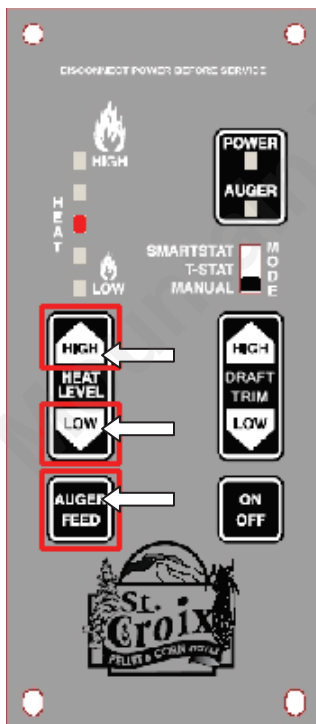

Figure 4
**Feedrate Adjustment** The feedrate can be fine-tuned while the furnace is in operation by *pressing and holding* the “Auger Feed” button down and then *either* pressing the “Heat Level High” button to increase the feedrate, *or* pressing the “Heat Level Low” button to decrease the feedrate. There are 5 levels on the control board and they are indicated by a single flash of the LED’s. The default setting is the center LED (see figure 4). This gives 2 adjustments increasing the feedrate (LED’s 4 & 5) and 2 adjustments decreasing the feedrate. (LED’s 1 & 2) The ON time is *increased or decreased* .25 seconds with each adjustment.